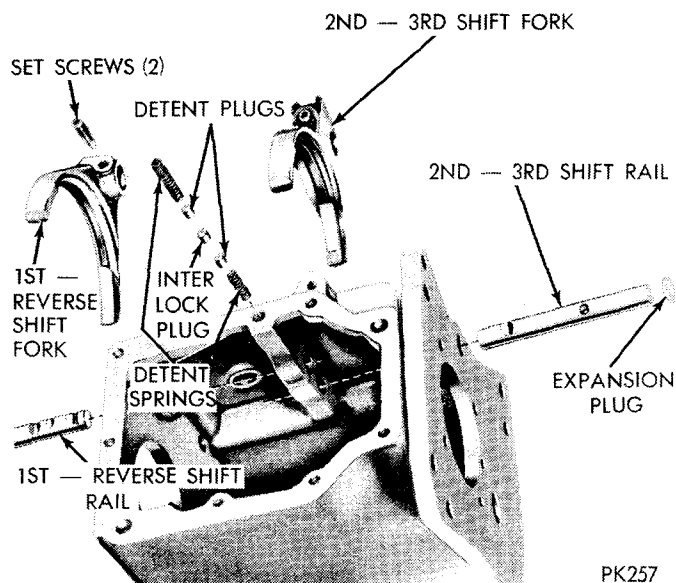

Fig. 2—Shift Rails and Forks—Disassembled
(8) Lift interlock plug (Fig. 2) from case with a magnet.
(9) Tap on inner end of 2nd-3rd shift rail to remove expansion plug from front of case. Remove shift rail out through front of case.
(10) Remove 2nd-3rd detent plug and spring from detent bore with a magnet.
(11) Tap output shaft assembly rearward until output shaft bearing clears case. Remove both shift forks. Remove snap ring that retains output shaft bearing to output shaft.